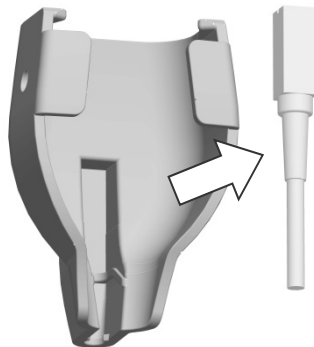

Fig. 12 How to release the Magnetic sensor
- 2) Release the Magnetic sensor from the Magnetic sensor attachment as shown in Fig. 12.